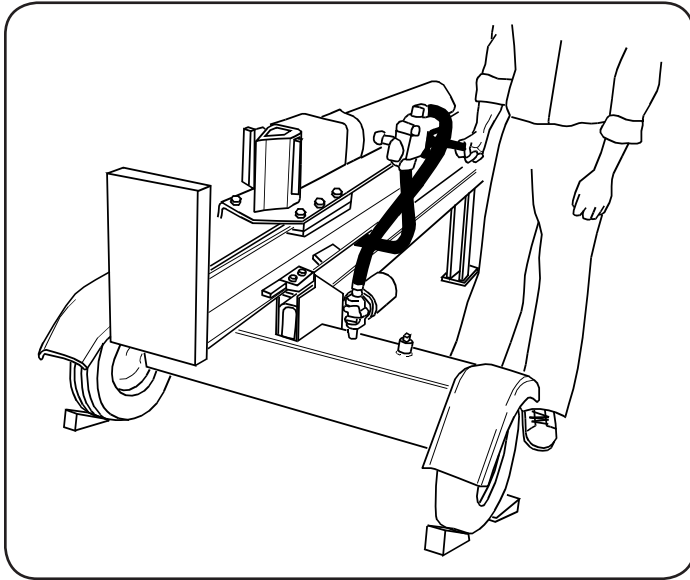

Figure 4-4
- Stand behind the reservoir tank to operate the control handle and to stabilize the log. See Figure 4-4.